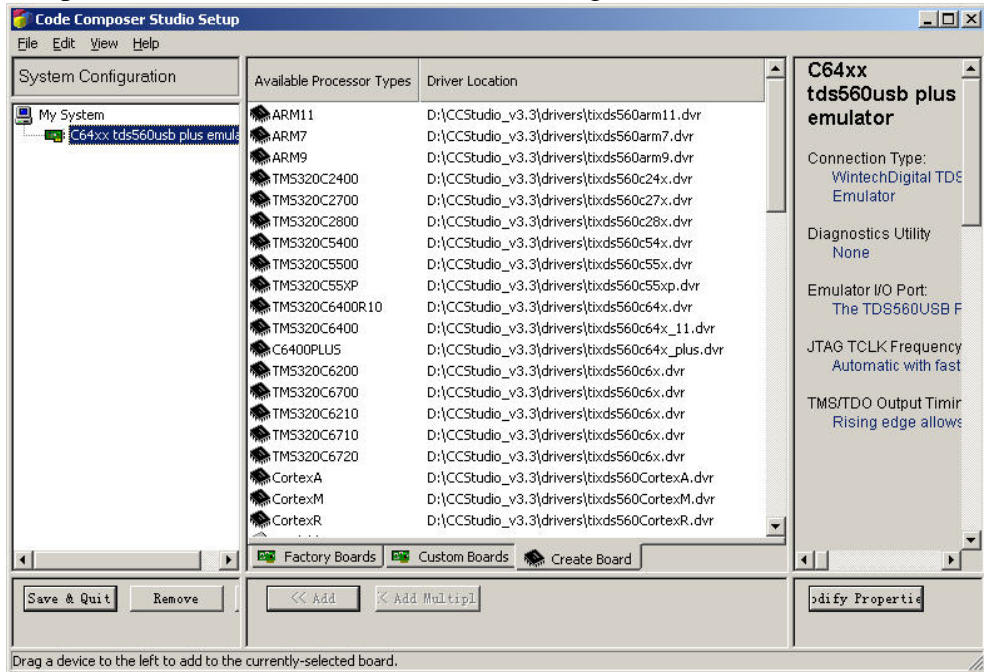

Figure C-6
7. Click on “Finish” to get to the “Process Configuration” window. Click on the Connection Name you inputted at step 4. The available processor will list.(see Figure C-6) Depends on the type and the number of the DSPs on your target board, choose the appropriate processor and double click on it. (See Figure C-6.)